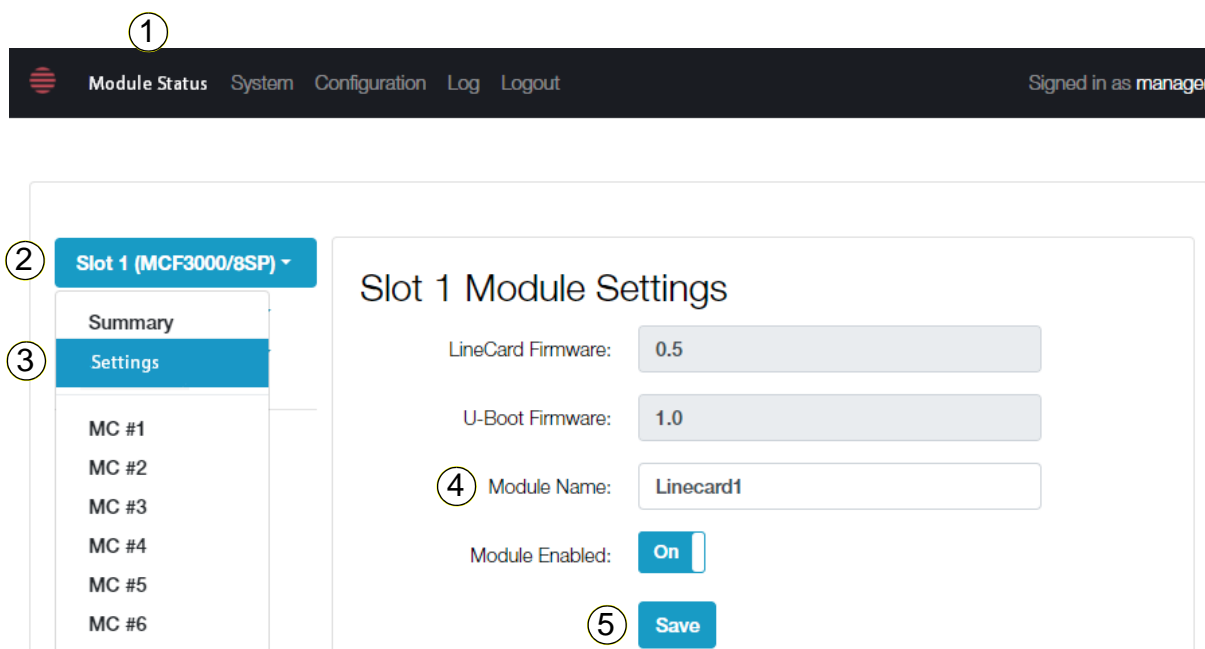

Figure 32. Slot Module Settings Window - Naming Media Converter Module Slots
The steps are illustrated in Figure 32 and explained in the following procedure.
2. From the **Slot # (Module)** menu, click the chassis slot containing the media converter module you want to assign a name. The example in Figure 32 selects the media converter module in slot 1.